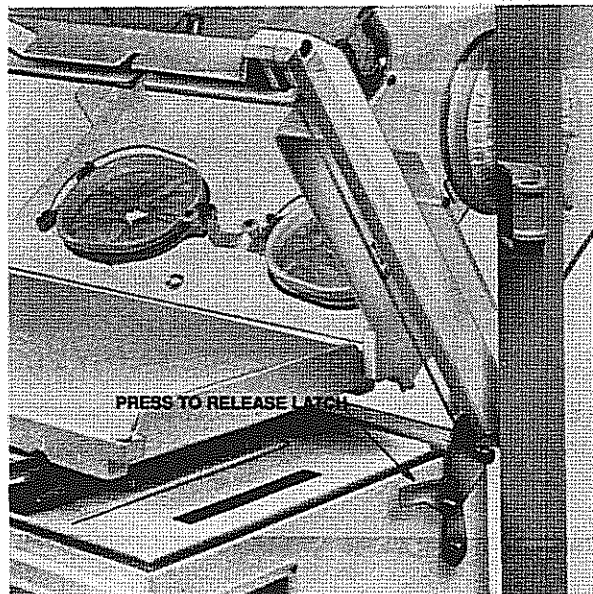

FIGURE 2.6 HOOD RELEASE OPERATION
G. CHECK HOOD HINGE AND LATCH OPERATION for proper positioning. Using the Hood Lift handle, slowly tilt the Hood back until the Hood Latch engages. Close the Hood by releasing the Hood Latch as shown in Figure 2.6.